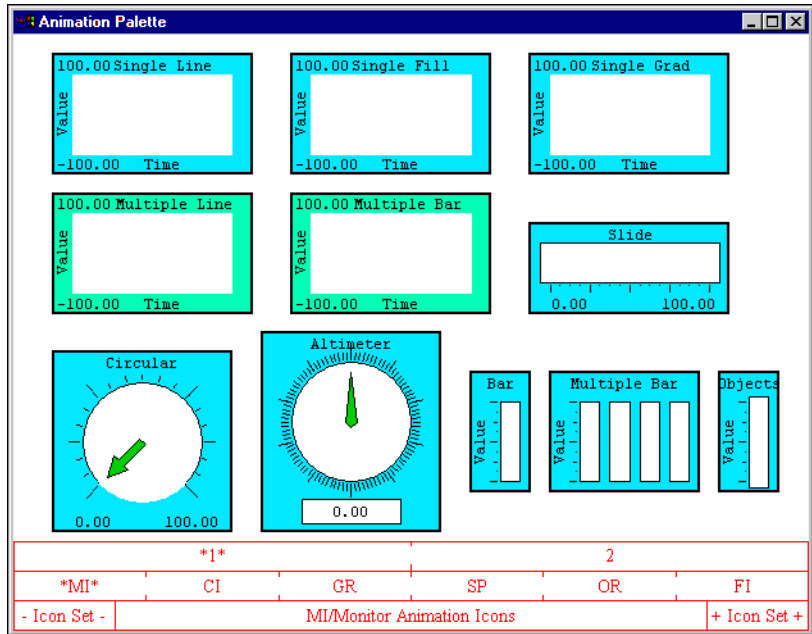
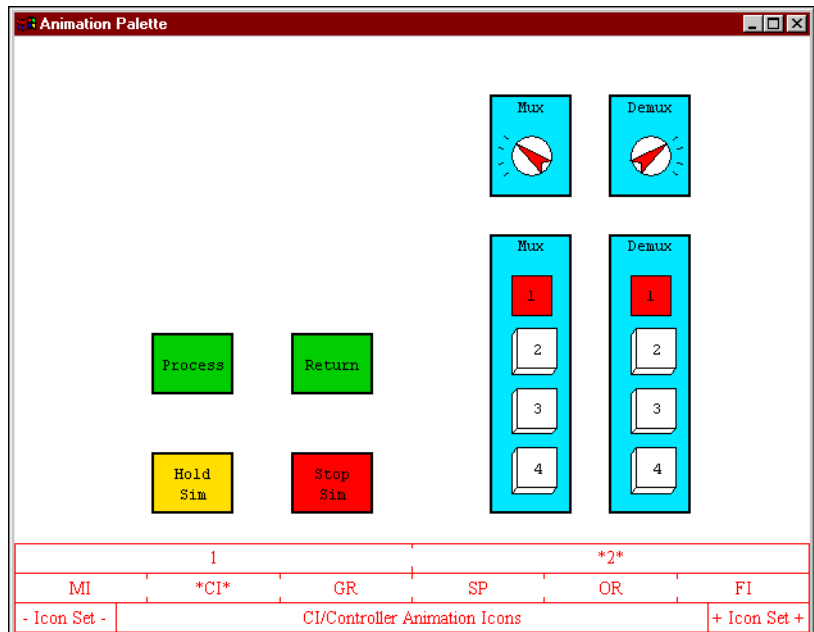

Figure 2-6. Controller Animation Icons (Palette CI-1)
Figure 2-7. Controller Animation Multiplexor Icons (CI-2 Palette)
- **Controller Animation Icons (CI-1 and CI-2)**—The **Controller Animation** palettes, shown in Figure 2-6 and Figure 2-7, provide signal sources to be sent to your SystemBuild simulation.
- **The CI-1 palette**—This palette, shown in Figure 2-6, provides analog and digital controls. The analog controls include dial, slide, and numeric controls. The digital controls look like switches. To assert a digital signal, click the switch condition you want to activate. When using the analog controls in the **Interactive Animation** module at run-time, you can vary the icon's control values while your simulation/control run is in progress, by clicking and dragging the sliding bar or dial to a different level, by clicking one of the graduations to move the bar or dial to that point, by clicking the middle mouse button on an arrow to display a dialog box for incrementing or decrementing numbers on the scale, or by left-clicking in the numeric display to bring up a dialog box for entering an exact output value.
- **The CI-2 Palette**—Figure 2-7 shows two multiplexor and two demultiplexor icons, plus the **Process**, **Return**, **Hold Sim**, and **Stop Sim** buttons.